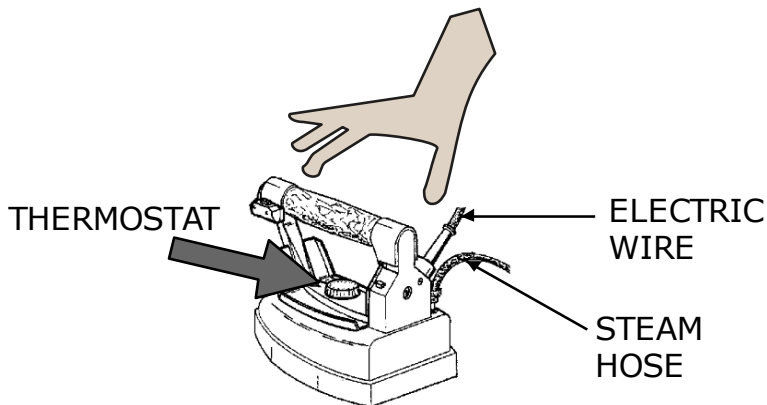

Fig. 5
8. Turn on the boiler (fig. 4 E) and the iron switch (fig. 4 D) and position the iron thermostat (fig. 5) on "cotton".
4. For dry ironing it is possible to adjust the thermostat (fig. 5) on various positions according to the type of fabric (check garment label). For steam ironing, set the thermostat on "cotton" or "linen"
3. the steam tube and iron electric cable once they seem damaged (fig. 5);